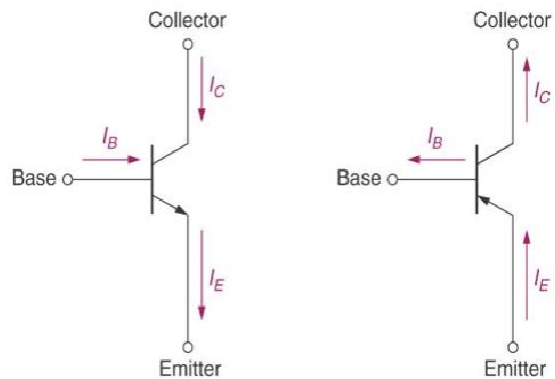

Figure 3.5 Transistor terminal current
- Transistor terminal current flow is shown in Figure 3.5.